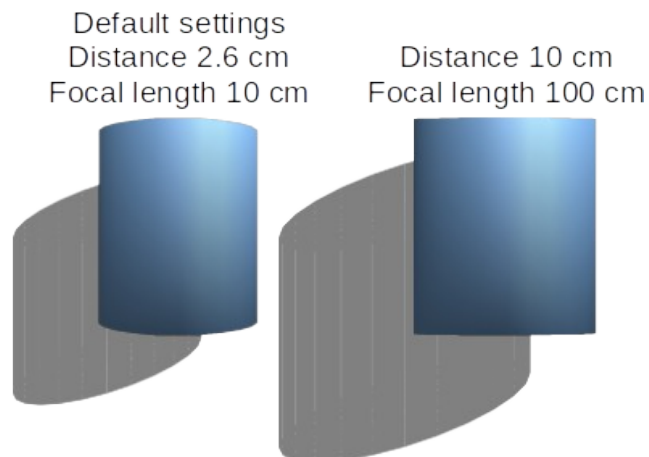

Figure 22: Example of changing camera settings
- **Camera** – sets the camera options for a selected 3D scene as if a camera is being used to take a photograph (Figure 22). The settings affect only central perspective and not parallel projection.